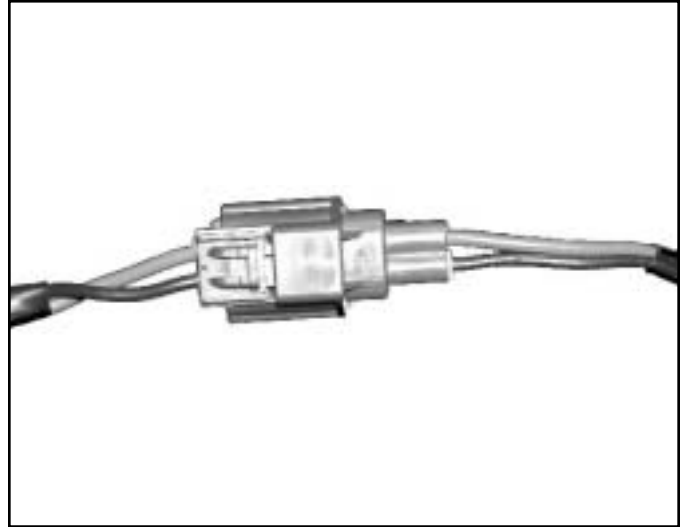

Figure S-1
2. Disconnect the 2 pin connector from the tonno main wire harness. See figures S-1.
6. Reconnect the 2 pin connector on the main wire harness. See figure S-1.